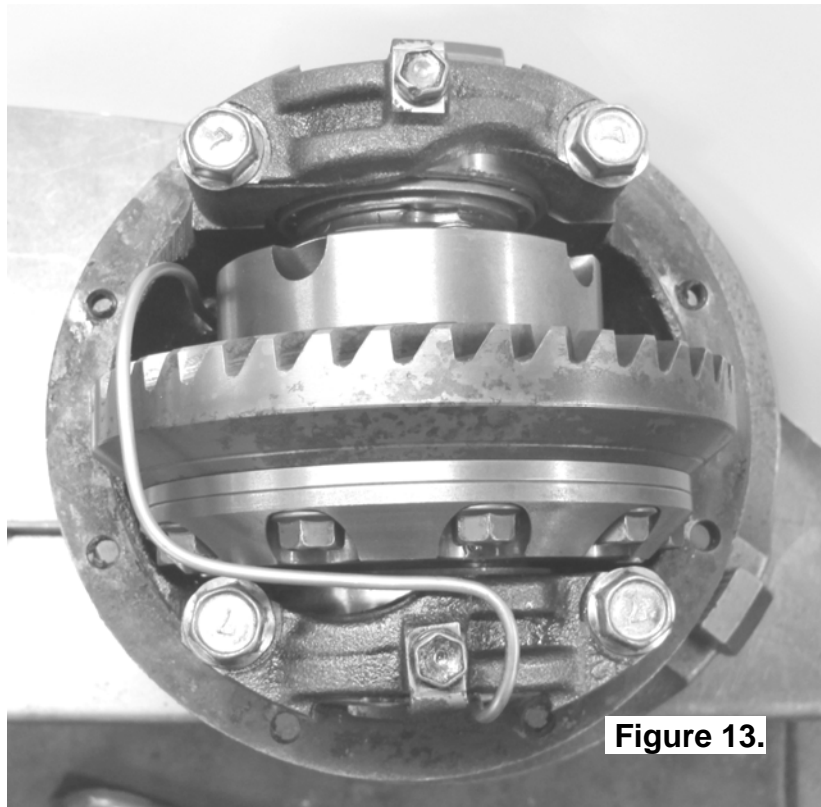

Figure 13.
- With the seal housing tube now firmly secured into the bulkhead fitting, bend the tube so that it closely follows the profile of the differential. (Figs.13., 14. & 15.)